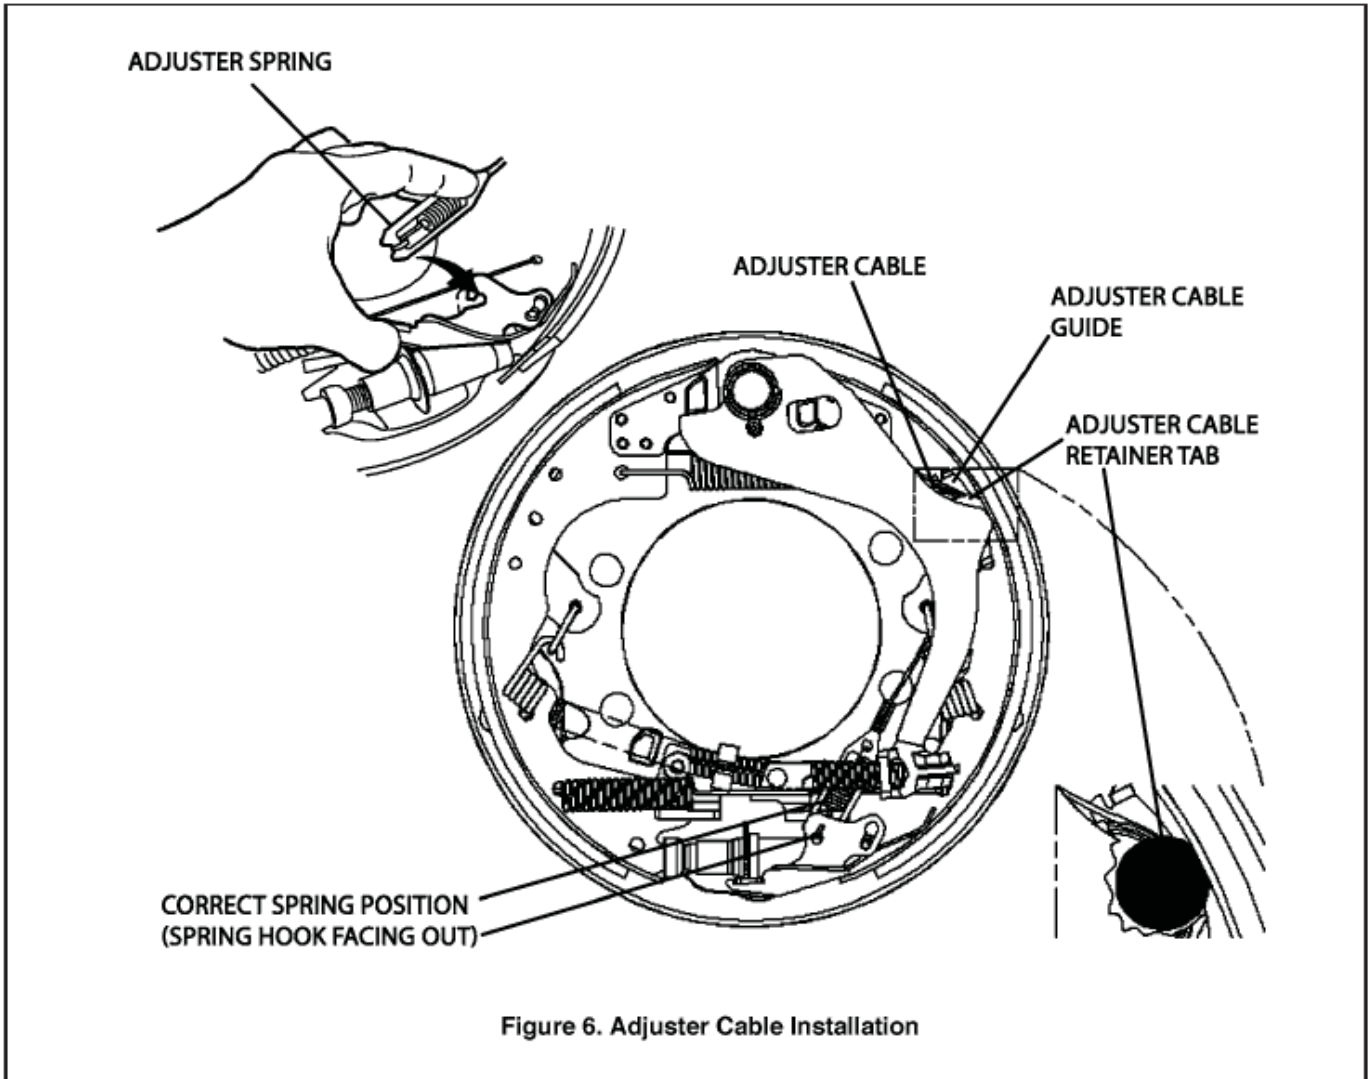

Figure 6. Adjuster Cable Installation
- (10) Route the adjuster cable around the adjuster cable guide, under the shoe hold down spring, and attach to the adjuster lever as shown in Figure 6. Install adjuster cable retaining tab if so equipped.
Correctly assembled, the adjuster cable end-fitting is behind the adjuster lever, with the spring hook facing out as shown in Figure 6.
- (5) Reinstall the lever return spring and parking brake cable to the end of the brake lever.
- (6) Route the adjuster cable around the adjuster cable guide, under the shoe hold-down spring, and attach to the adjuster lever as shown in Figure 6. Install adjuster cable retainer tab if equipped.
When correctly assembled, the adjuster cable end-fitting is behind the adjuster lever with the spring hook facing out as shown in Figures 6 and 12. Failure to do so may result in reduced brake operation.